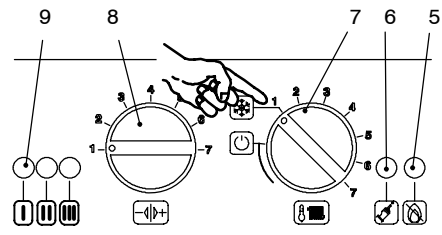

Fig. 7.9
- 9 Make a note of the position of the knob 8 and recorded this in Fig. 7.9 below with an *.
- 10 Turn the boiler OFF and ON positioning the function selector 7 as indicated in Fig. 7.9